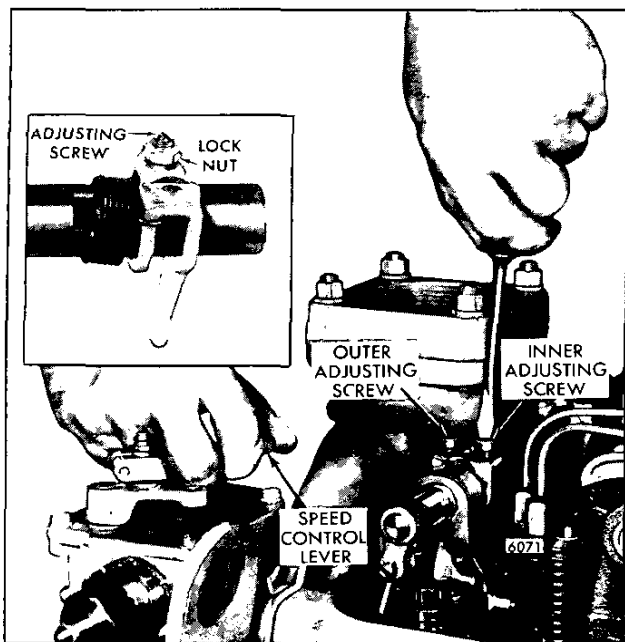

Fig. 2 - Positioning the Rear Injector Rack Control Lever
4. Loosen all of the inner and outer injector rack control lever adjusting screws or the adjusting screws and locknuts (Fig. 2). Be sure all of the levers are free on the injector control tube.